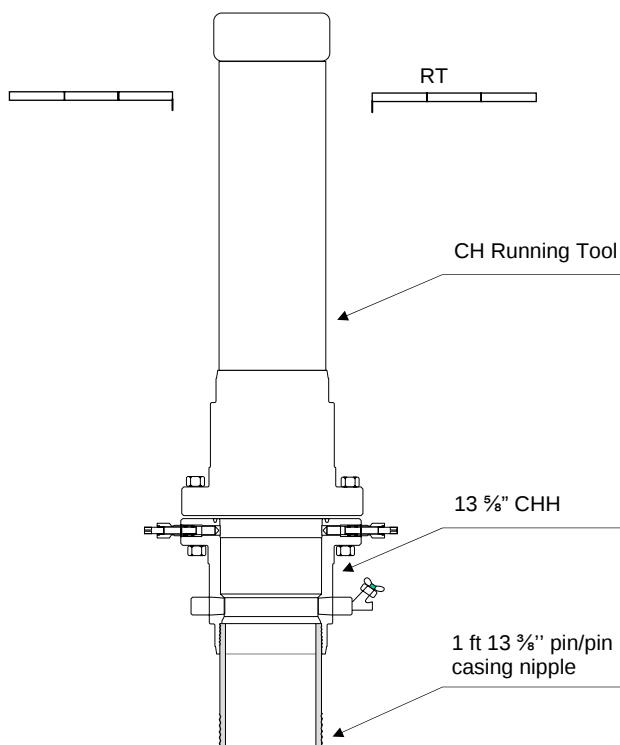

Figure 2-29: Running 13 5/8" CHH through rotary table
- The threaded type Casing Head Housing (CHH) is made up to a 1 ft 13 $\frac{3}{8}$ " nipple (pin x pin). The assembly is made up in DWS and dispatched to the rig prior to the job. Figure 2-29 and Figure 2-30.